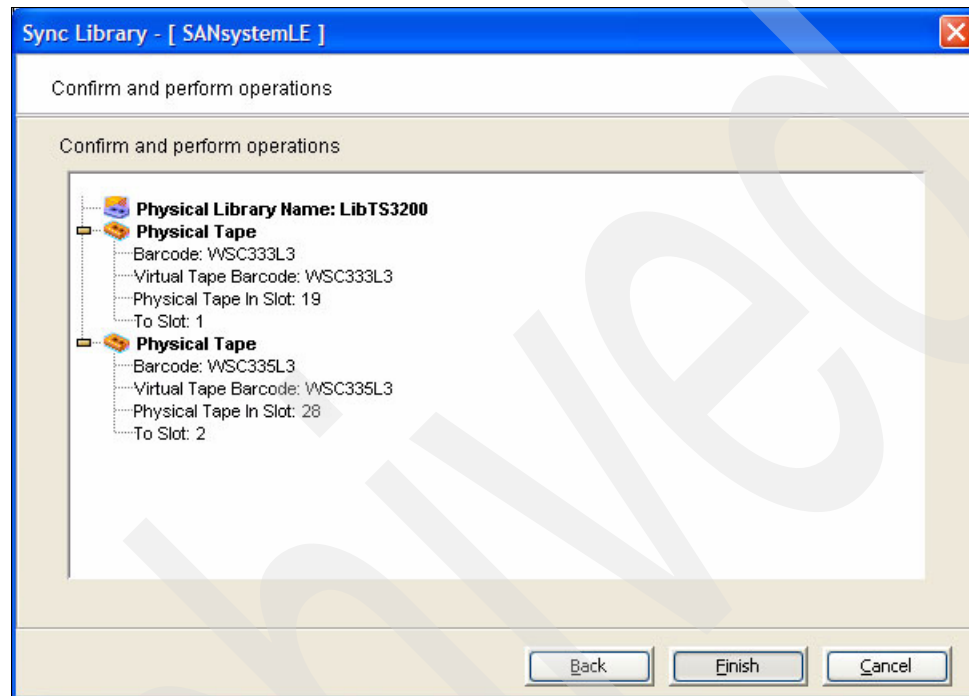

Figure 6-103 Cached virtual library creation: Confirm cache creation
17. In the window shown in Figure 6-103, verify the virtual volume cache configuration. Click **Next**.